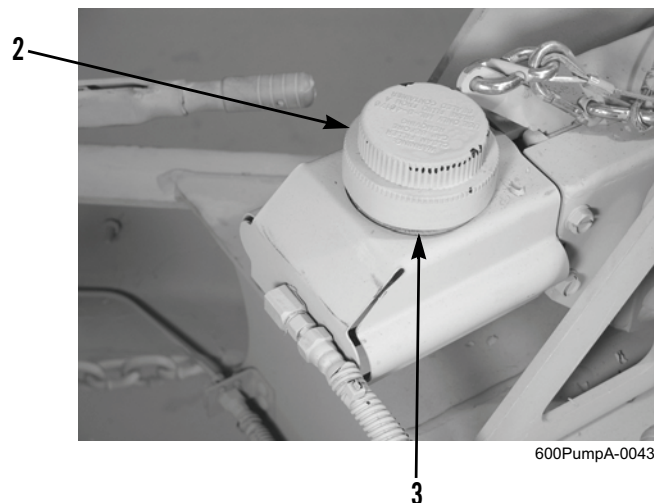

Figure 11. Master Cylinder and Cap.
1. Remove cap (Figure 11, Item 2) from master cylinder (Figure 11, Item 3). Ensure brake fluid level is within 1/8 in. (0.32 cm) of top of reservoir. Add brake fluid, as required.